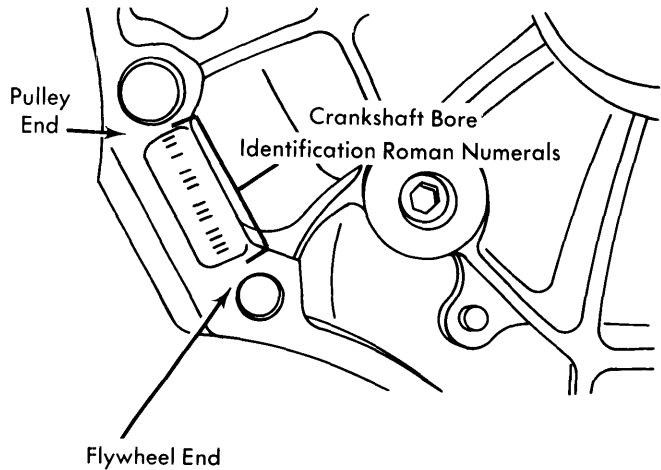
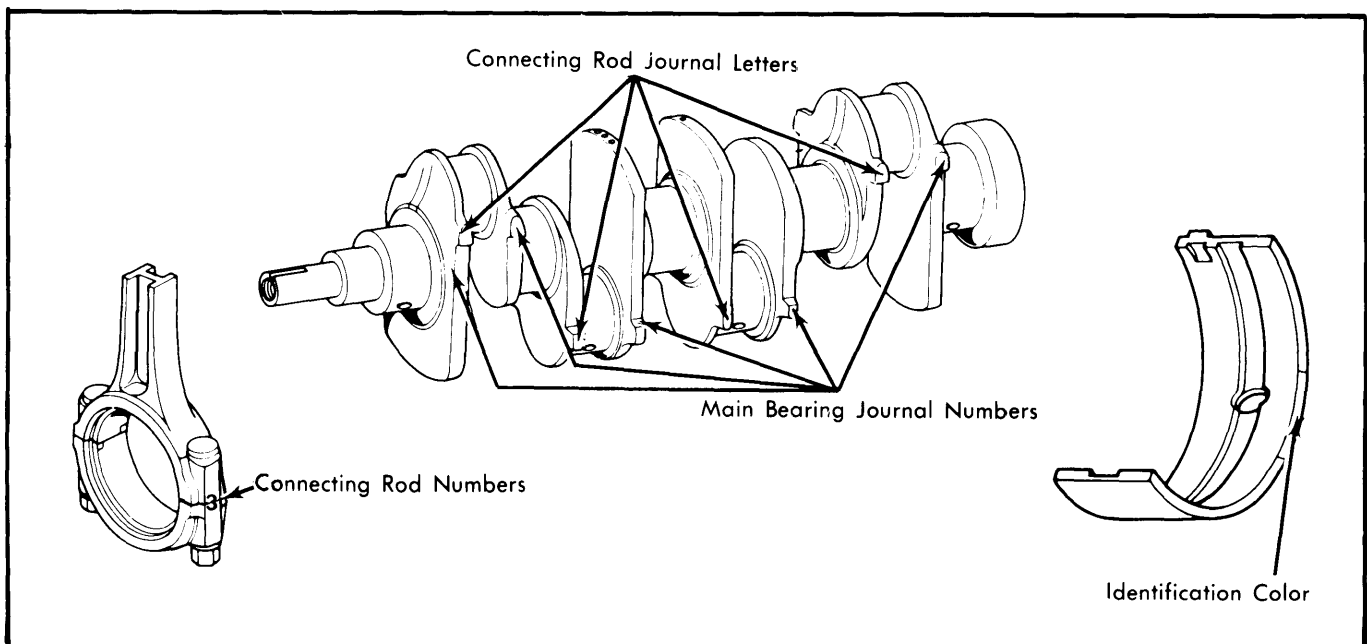

Fig. 3 Crankshaft Identification Locations (All Engines)
Fig. 4 Connecting Rod Bearing & Cylinder Block Identification Locations
4) Referring to Fig. 3 and Fig. 4, note that all **letters** stamped on crankshaft counterweight pads apply to connecting rod journal nearest letter. All **numbers** stamped on crankshaft apply to nearest main bearing journal. Connecting rod caps have numbers stamped on cap and cylinder block has Roman numerals stamped on pad at flywheel end of block.